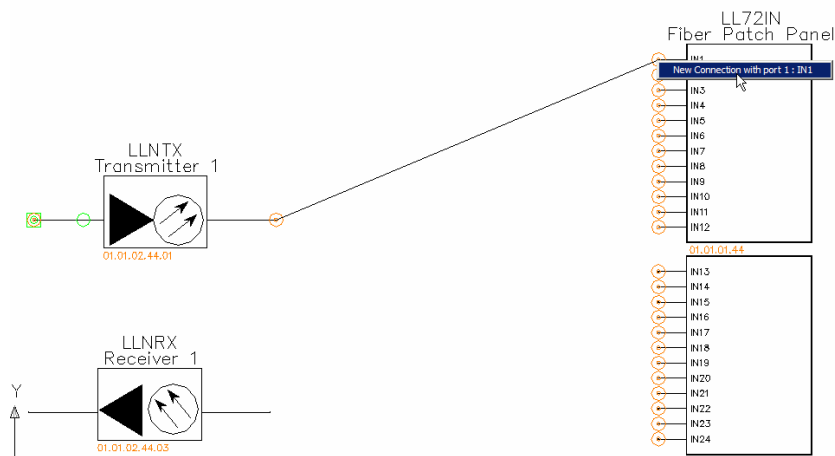

Figure 230 – Creating a connection between equipment ports.
5. A pop-up will prompt you to create a new connection between the ports. Click on this button, as shown in Figure 230, below.